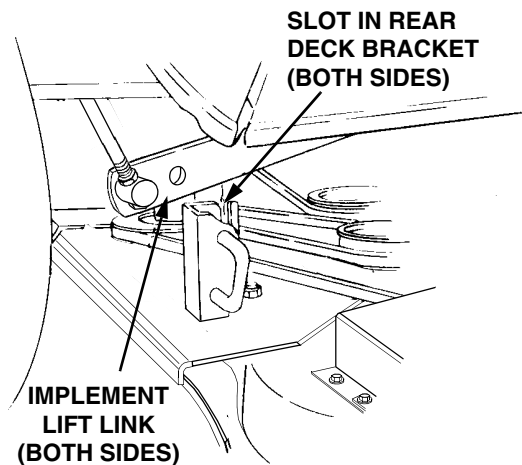

Figure 28
3. Raise the tractor implement lift handle to its highest setting and slide the deck under the tractor. Make sure the slot in each rear deck bracket aligns with the implement lift link on each side of the tractor (See Figure 28).